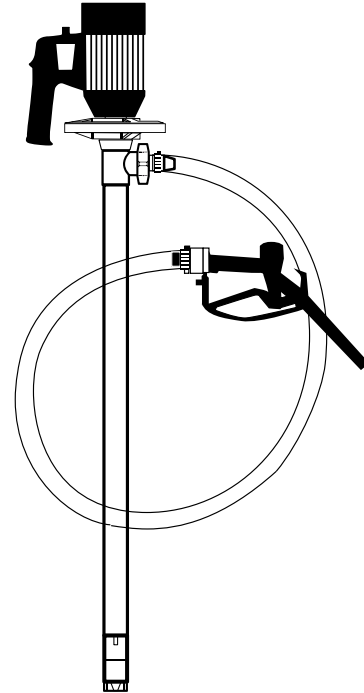

Figure 13
1. Once pump (see Figure 13) is fully assembled and all connections are securely fastened, insert the pump into the drum of liquid.